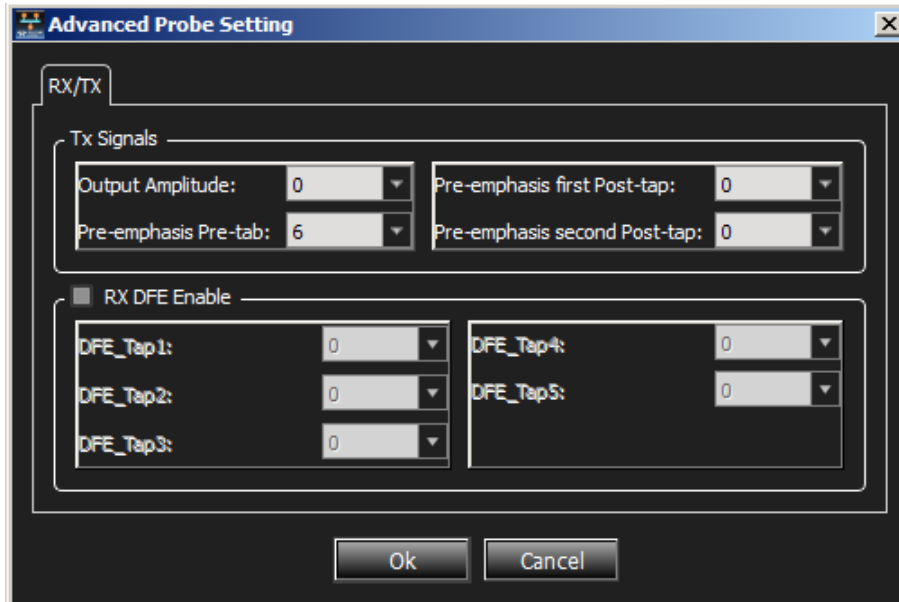

Figure 4.24: Advanced Probe Setting Window for 10 GigE Device
- ❑ Advanced: Displays the Advanced Probe Setting window (Figure 4.24). Enter the desired values for each of the parameters.